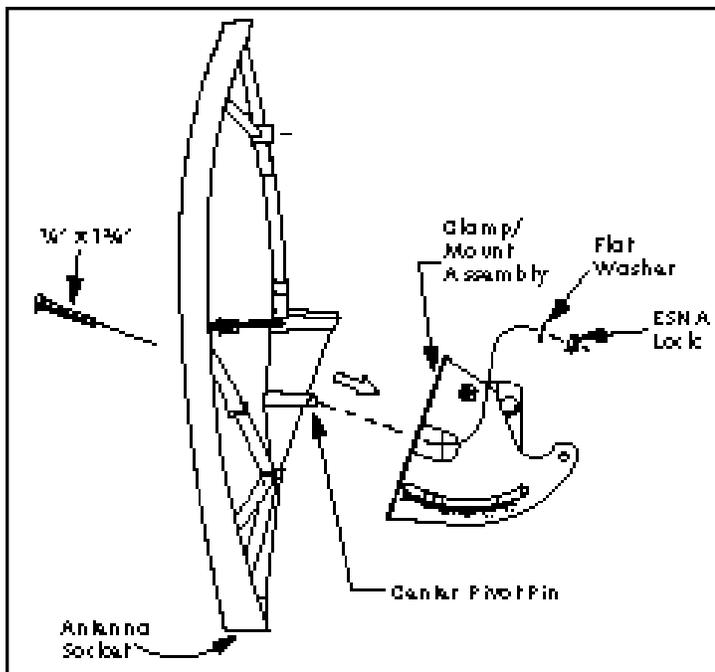

FIGURE 5
8. Attach the antenna to the tilt slots on the clamp/mount assembly with two 1-3/4" long carriage bolts, flat washers and ESNA locknuts, making certain the center pin on the antenna is in the mating hole in mount tab before tightening. See Figure 5.